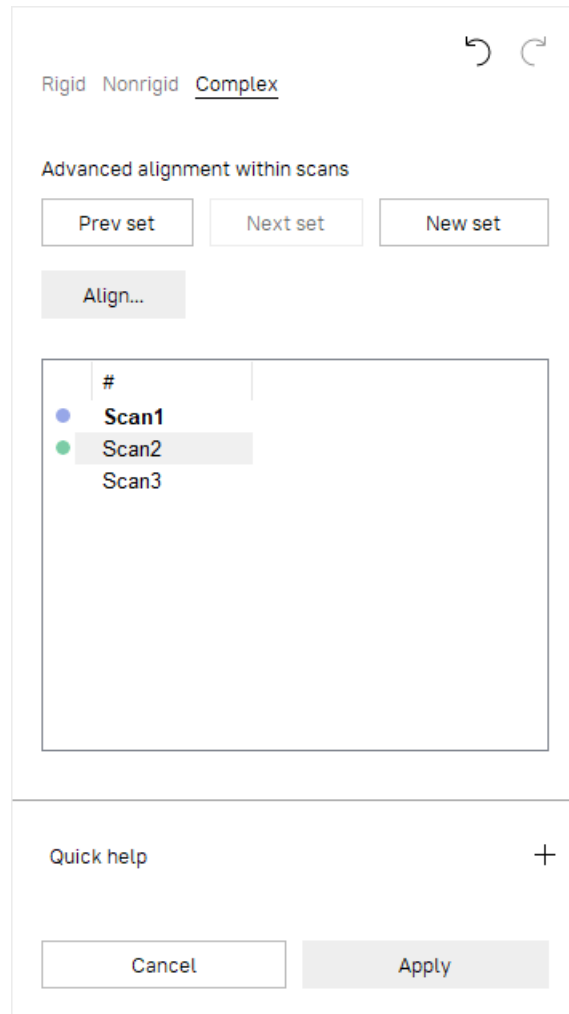

Figure 87: *Align* panel: *Complex* tab.
1. Make sure the *Complex* tab is selected (see Figure 87).